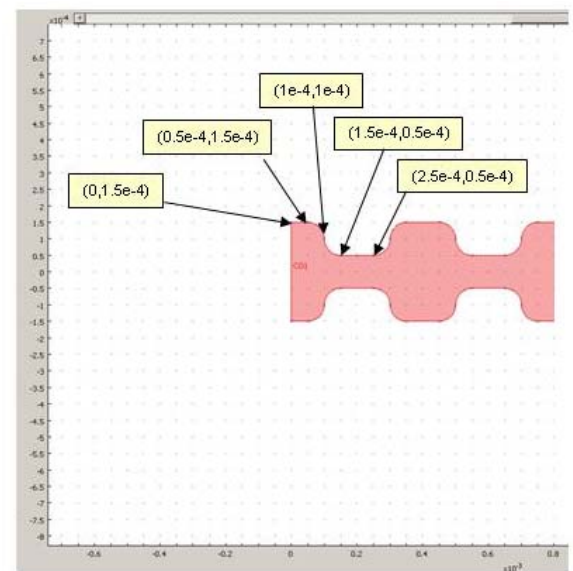

Fig 1. Geometry of the channel.
- ⇒ Channel dimensions: as shown in Fig 1